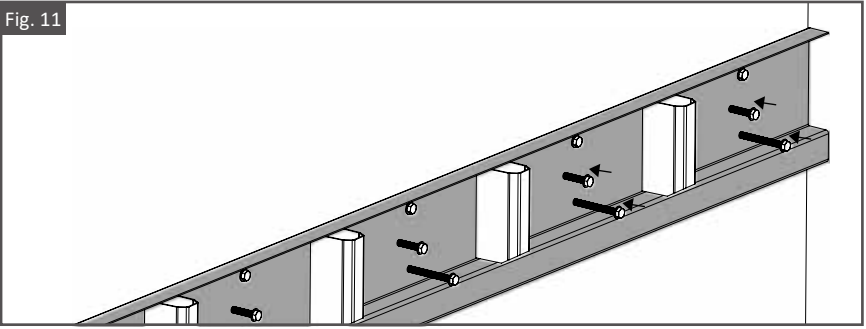

Fig. 12
- Attach an F-50 Bracket to each end of the S-Ledger with Evolution Self-Drilling Screws. **For a successful installation, the inside face of the F-50 Brackets should be in line with the outside edge of the S-Ledger.** As shown in Fig. 12 & 13.